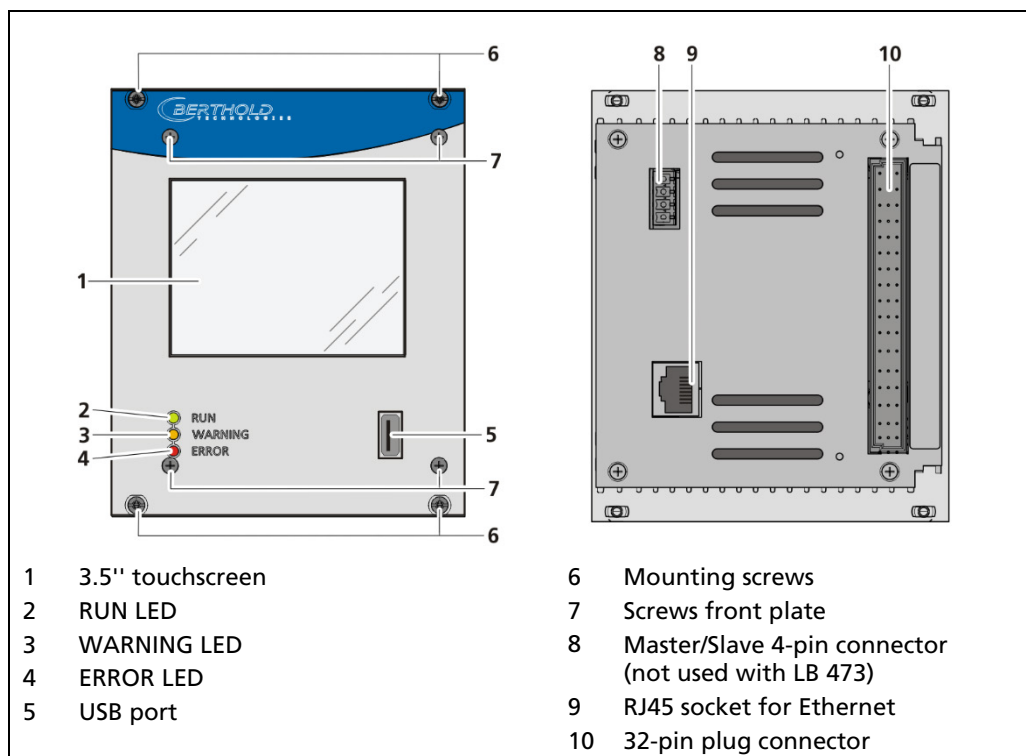

Fig. 4 Front/rear view of the master EVU
The LEDs (Fig. 4, items 2-4) below the touchscreen show the current operating status of the master EVU.